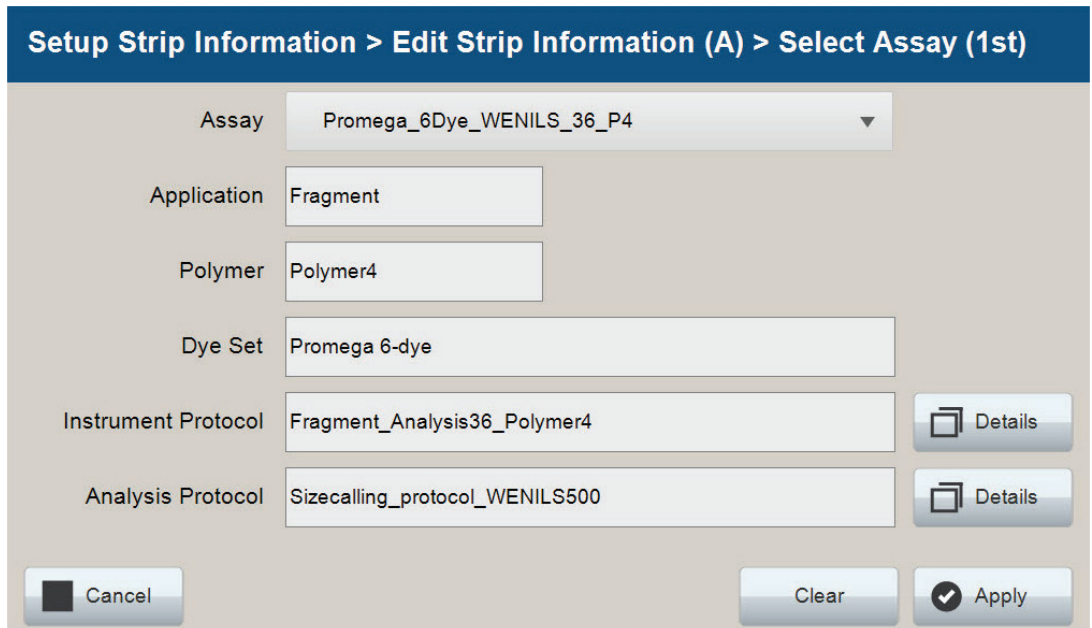

Figure 19. Accessing Instrument and Analysis Protocols on 'Select Assay' window.
8. You can verify the settings of the Instrument and Analysis Protocols associated with the assay chosen by selecting **Details** next to these fields (Figure 19). This will display a window showing the settings in these protocols but will not allow you to edit these settings. Refer to the *Spectrum Compact CE System Operating Manual #TMD058* to edit the Instrument Protocol or Analysis Protocol. When the assay information is confirmed, select **Apply** to return to the 'Edit Strip Information' screen.